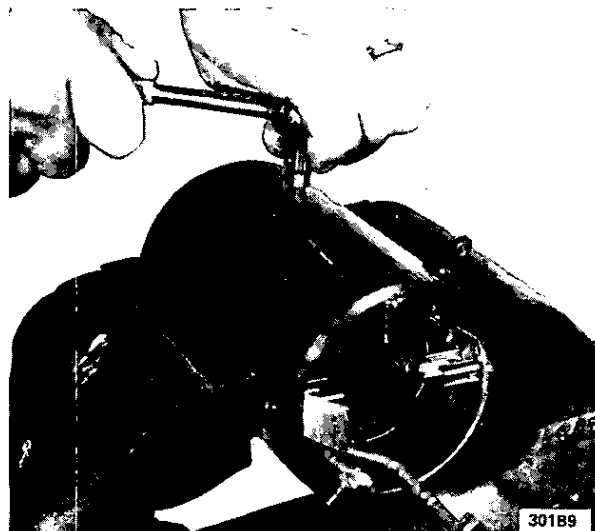

Figure 1B-9 Removing Pole Shoes
2. Unscrew the four (4) pole shoe attaching bolts and take field coils out of field frame. See Figure 1B-9.